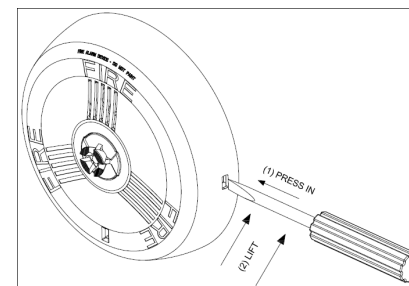

Figure 7: Removing a Horn Strobe
- To remove the appliance, insert a small flat-bladed screwdriver into the side opening 1/2" as shown in Figure 7. Then pry off the beauty cover with the screw driver and remove mounting screws.